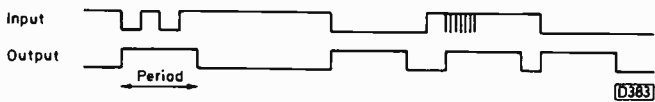

Fig. 18: Edge-triggered monostable waveforms.
(1) *Edge triggered.* Once the monostable is fired, the output pulse is completely independent of all further happenings at its input (see Fig. 18).